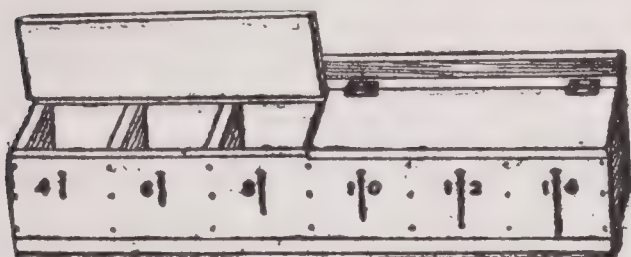

FIG. 47.
unnecessary hunting, and several receptacles for these are shown in Figs. 47 to 52. The
49) 6 inches wide by 6 inches high at the back and 5 inches high at the front. Nail together the front, back, and end pieces, then nail on the bottom and fasten the partitions in place so as to divide the box into six equal spaces. The box may either be screwed to the wall or hung upon hooks. If you screw it, do this before putting on the cover. Cut the hinge-strip (*E*, Fig. 49) 1 inch wide by the length of the box and nail it in place to the partition tops. The cover may be made in one piece, or in two as in Fig. 47; hinge it to the hinge-strip. Mark the sizes of the nails upon the front of the box, and fasten nails of corresponding sizes in front of the receptacles with small staples or bent-over brads to help you to associate the lengths with the size numbers. This box has been planned for *common nails* and to hold sizes ranging from $1\frac{1}{2}$ inches to $3\frac{1}{2}$ inches long (4-penny to 16-penny).